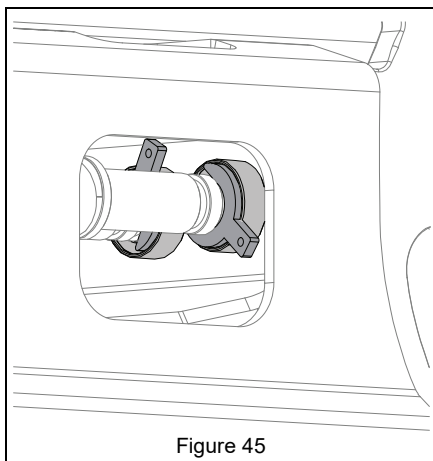

Figure 45
5. Insert locking clips and unscrew large set screws to put spring load onto locking clips. See Figure 45.